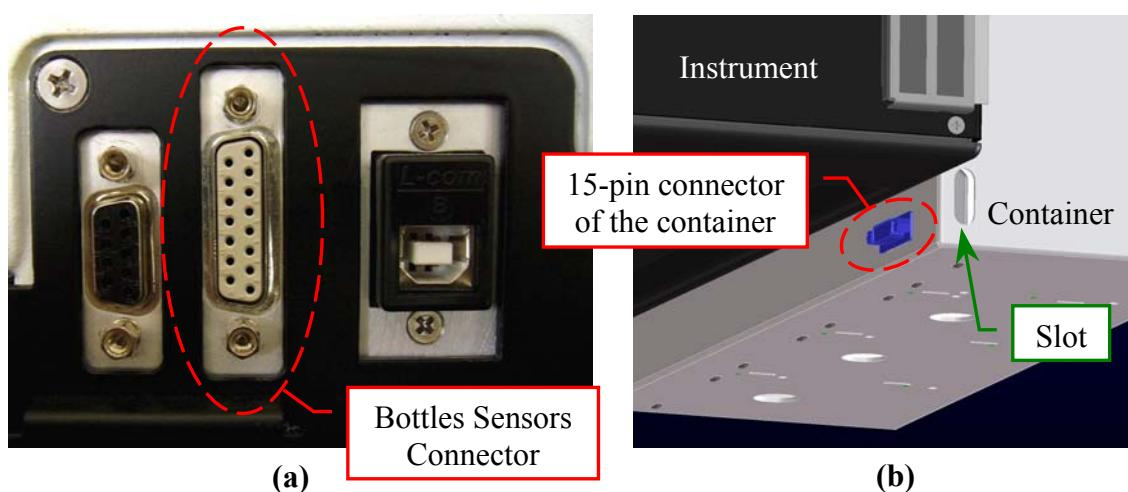

Fig.4 [(a), (b)] – Connectors to plug the “Bottles Connection Cable”
8. Take the “Bottles Connection Cable” (P/N: 50-02684-00) and plug its 15-pin male connector in the 15-pin connector (showed in the **Fig.4-a**) located on the back side of the instrument (*Bottles Sensors Connector*).
9. Plug the 15-pin female connector of the “Bottles Connection Cable” in the 15-pin connector of the container (showed in the **Fig.4-b**) located on its back side.
3. Push the four loading tubes through the slot of the container (**Fig. 4(b)**) and pull them into the container.